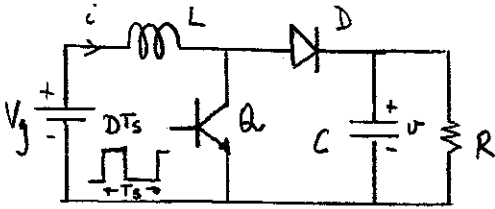

Fig. 2
4) From Fig. 2 we see the maximum voltage stresses
From Fig. 2 and Fig 3 we can appreciate that the maximum current stress in  $D_1$  occurs at the beginning of  $D_2 T_s$ .
Derive an equivalent circuit model of the PWM boost converter of Fig. 2, which models the DC properties of the converter operating in the continuous conduction mode (CCM). Your model should take into consideration the non-ideality of the transistor switch,  $Q$ , which is to be modelled as a (small-valued) finite resistance  $r_{ON}$ , in its ON state, and a finite resistance  $r_{OFF}$  ( $\gg r_{ON}$ ) in its OFF state. All other components may be assumed to be ideal.